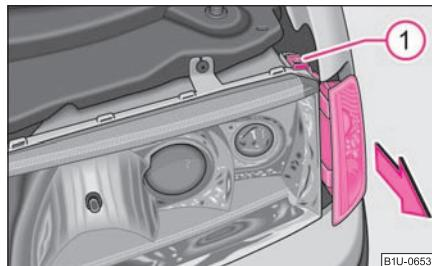

Fig. 178 Removing the light bulb for the turn signal light
- Unscrew the screw (1).
- Push the lamp out in direction of arrow ⇒ fig. 178.
- Screw in the screw (1). ■